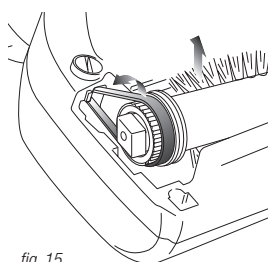

fig. 15
- 2 Slip the black belt off of the white gear and lift out the brush roll. (fig. 15)